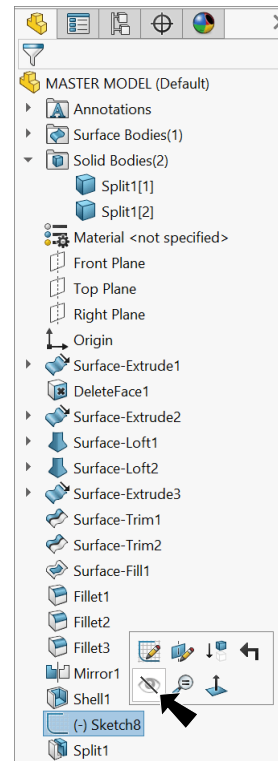

Fig. 69
Step 1. **Hide Sketch8** . To hide, click **Sketch8**  in the Feature Manager and **Hide**  on the context toolbar, **Fig. 69**.